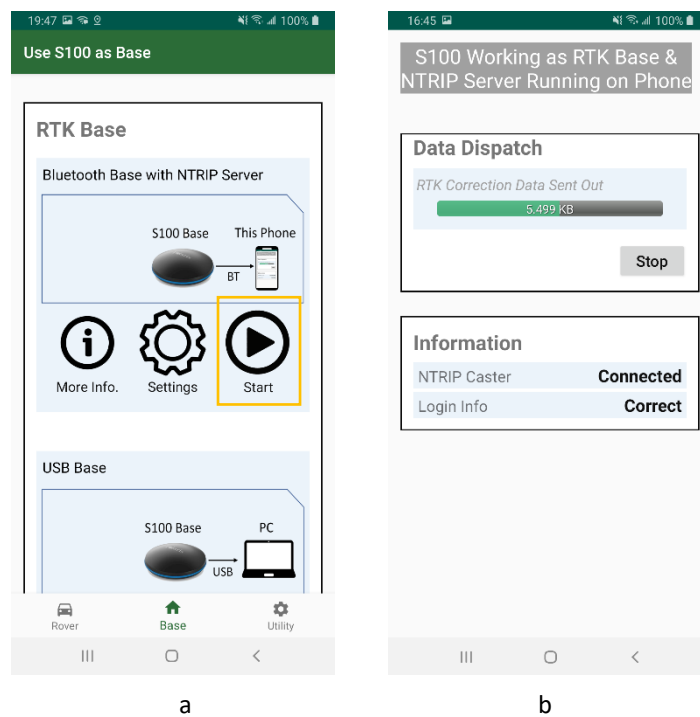

Figure A-7
3. Click Start of “Bluetooth Base with NTRIP Server”. See Figure A-7 a.
4. The NTRIP server starts. See Figure A-7 b.